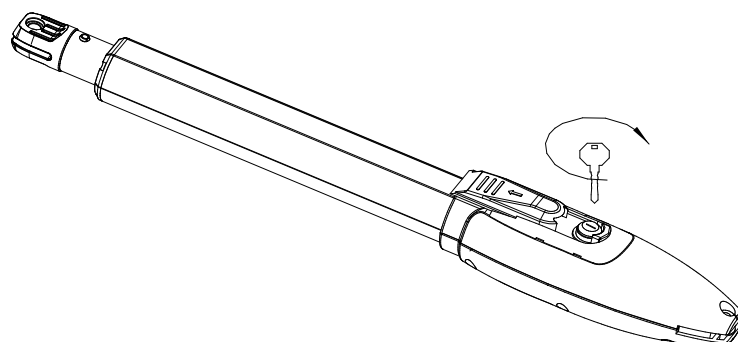

Figure 6
C) Before the installation, please unlock the two main machines. Unlock method: Open the manual release cover, insert the manual release key, rotate the key until it's released, as shown in Figure 6, then turn the telescopic arm, you'll find it's stretched by hand easily.